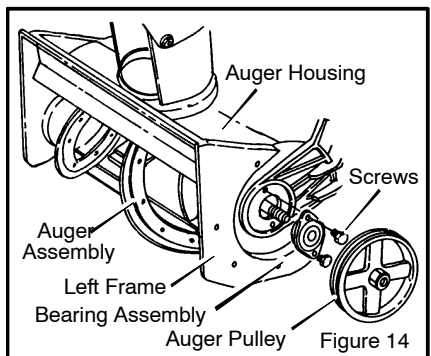

Figure 14
3. Remove the auger pulley (see Figure 14) from the auger shaft (threads are left hand; turn clockwise to remove). Place a piece of wood (2x4) on the center paddle area to secure auger to keep from turning.